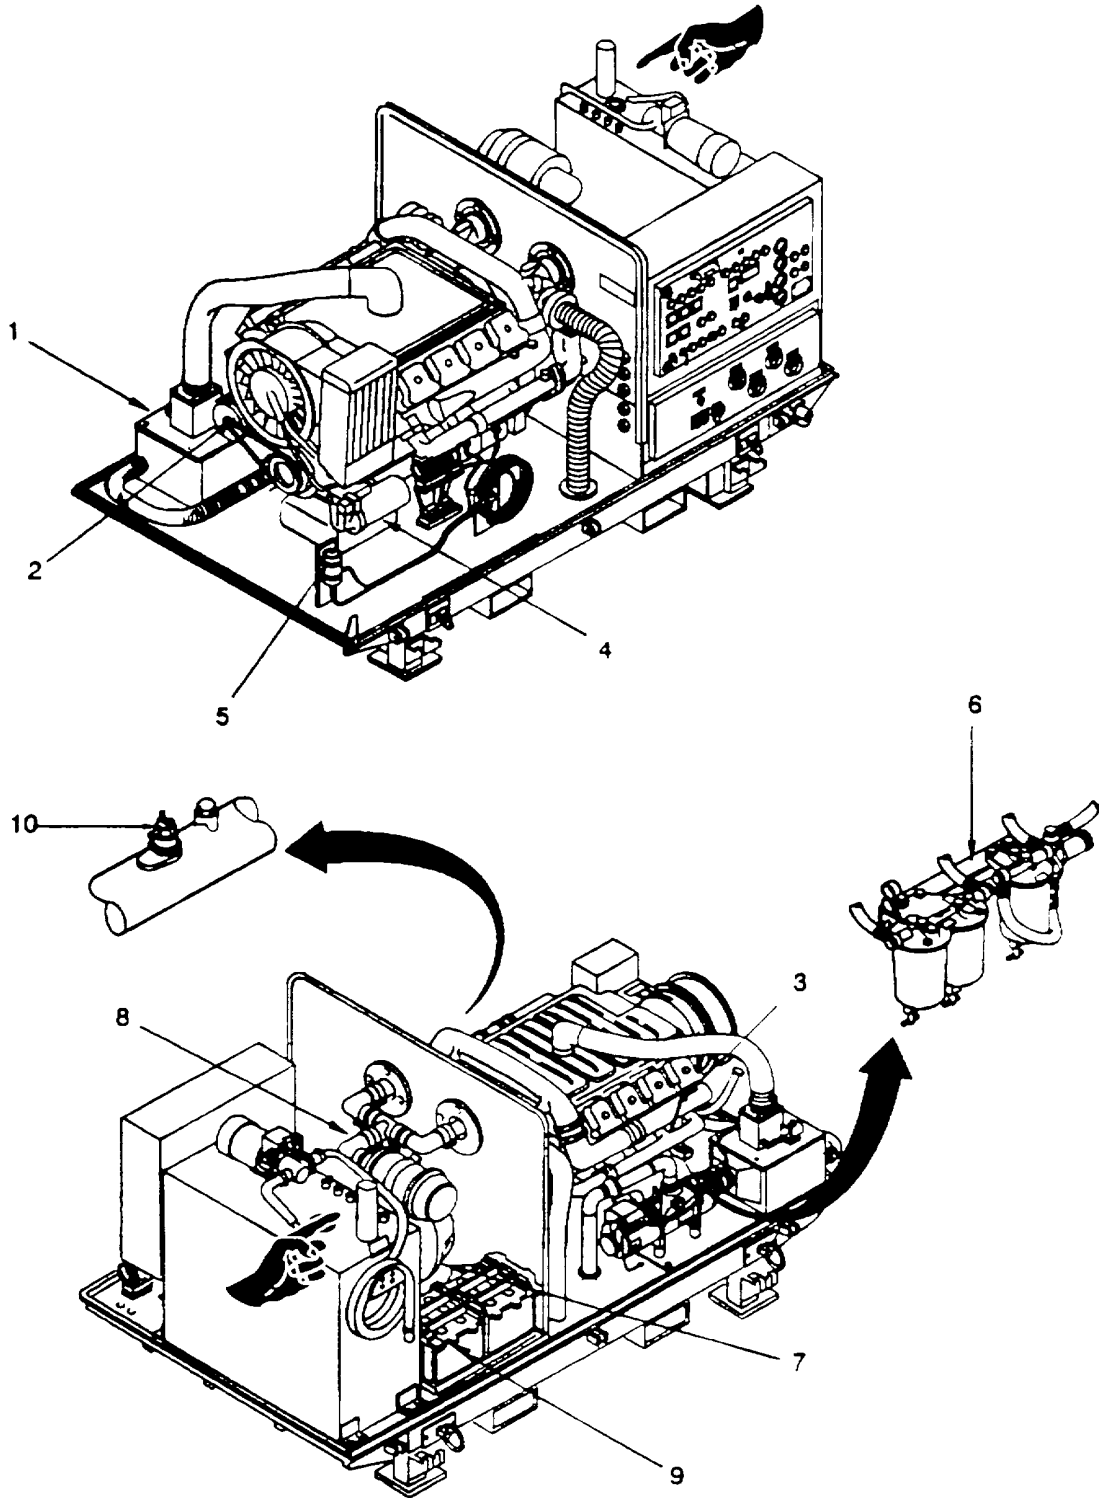

Figure 4-5. Unit PMCS Routing Diagram.
4.8.4 Special Instructions. Preventive maintenance is not limited to performing the checks and services listed in the PMCS table. Refer to figure 4-5 for PMCS routing. Covering unused receptacles, stowing unused accessories, and other routine procedures such as equipment inventory, cleaning components, and touch-up painting are not listed in the table. These are things you should do any time you see that they need to be done. If a routine check is listed in the PMCS table, it is because experience has shown that problems may occur with this item. Take along the tools and cleaning cloths needed to perform the required checks and services.